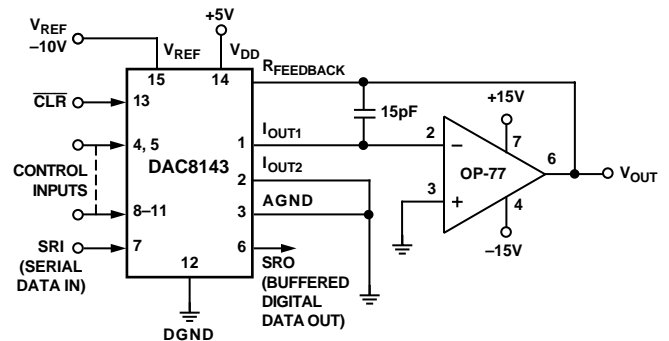

Figure 16. Unipolar Operation with High Accuracy Op Amp (2-Quadrant)
1. Phase compensation (see Figures 16 and 17).
The circuit shown in Figures 16 and 17 may be used with an ac or dc reference voltage. The circuit's output will range between 0 V and $+10(4095/4096)$ V depending upon the digital input code. The relationship between the digital input and the analog output is shown in Table II. The V_{REF} voltage range is the maximum input voltage range of the op amp or ± 25 V, whichever is lowest.
¹Nominal full scale for the circuits of Figures 16 and 17 is given by
²Nominal LSB magnitude for the circuits of Figures 16 and 17 is given by
The transfer function for the DAC8143 connect in the multiply-mode as shown in Figures 16 and 17 is:
In most applications, linearity depends on the potential of I_{OUT1} , I_{OUT2} , and AGND (Pins 1, 2 and 3) being exactly equal to each other. In most applications, the DAC is connected to an external op amp with its noninverting input tied to ground (see Figures 16 and 17). The amplifier selected should have a low input bias current and low drift over temperature. The amplifier’s input offset voltage should be nulled to less than $\pm 200 \mu V$ (less than 10% of 1 LSB).